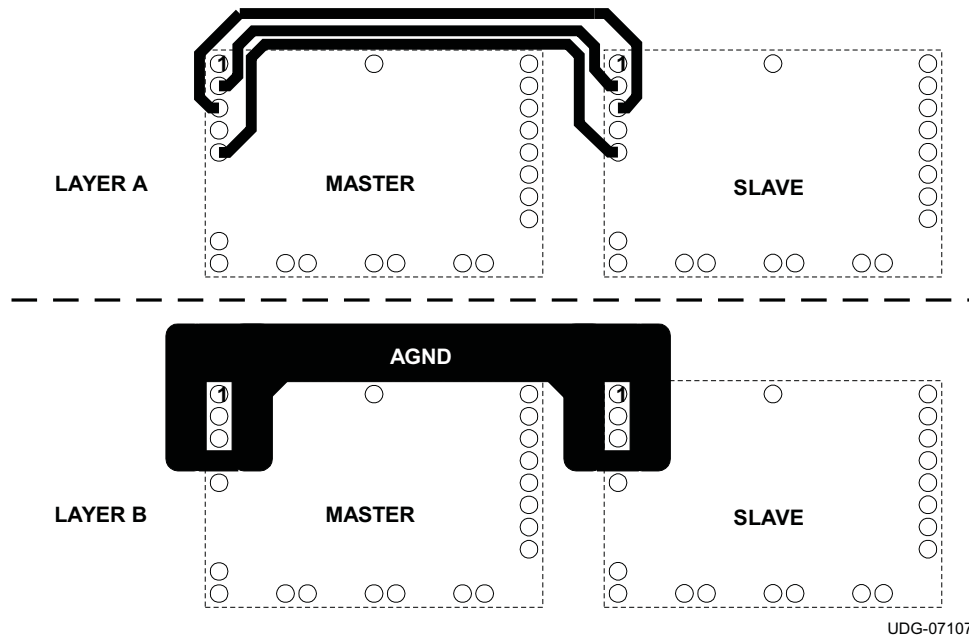

Figure 33. Recommended Layout of Inter-Connection Pins Between Two Current Sharing Modules
The PTH08T250W module is capable of being configured in parallel with another PTH08T250W module to share load current. To parallel the two modules, it is necessary to configure one module as the Master and one module as the Slave. To configure a module as the Master, connect the CONFIG pin (pin 1) to GND. The CONFIG pin of the Slave must be connected to V_I . In order to share current, pins 2 thru 5 of both the Master and Slave must be connected between the two modules. See Figure 33 for the recommended layout of pins 2 thru 5. The module that is configured as the MASTER is used to control all of the functions of the two modules including Inhibit ON/OFF control, AutoTrack sequencing, TurboTrans, SmartSync, +/- Remote Sense, and Output Voltage Adjust. See the current sharing diagram in Figure 28 for connections. The MASTER and the SLAVE must be powered from the same input voltage supply.
(1) For more details on the pin descriptions, please refer to the 'Terminal Functions' described in
(2) See Layer A in Figure 33 for recommended layout
(3) See Layer B in Figure 33 for recommended layout
In current sharing applications the V_I pins of both modules must be connected to the same input bus. The V_O pins of both modules are connected together to power the load. The GND pins of both modules are connected via the GND plane. Four other inter-connection pins are connected between the modules. Figure 33 shows the required layout of the inter-connection pins for two modules configured to share current. Notice that the Share (pin 2) connection is routed between the Comp (pin 3) and CLKIO (pin 5) connections. AGND (pin 4) should be connected as a thicker trace on an adjacent layer, running parallel to pins 2, 3 and 5. AGND must not be connected to the GND plane.